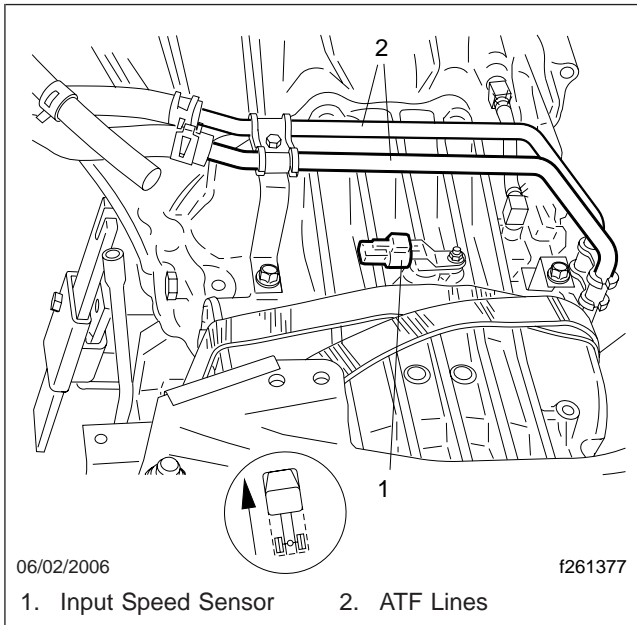

Fig. 5, Transmission, Top View
12. Remove the two ATF cooler lines. Disconnect them at the hoses on top of the transmission. See Fig. 5.
11. Install the ATF cooler lines. See Fig. 5.